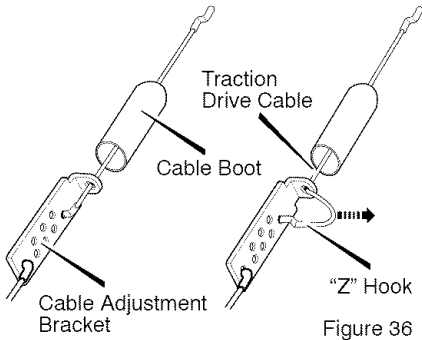

Figure 36
6. Slide the **cable boot** off the **cable adjustment bracket** (see Figure 36).